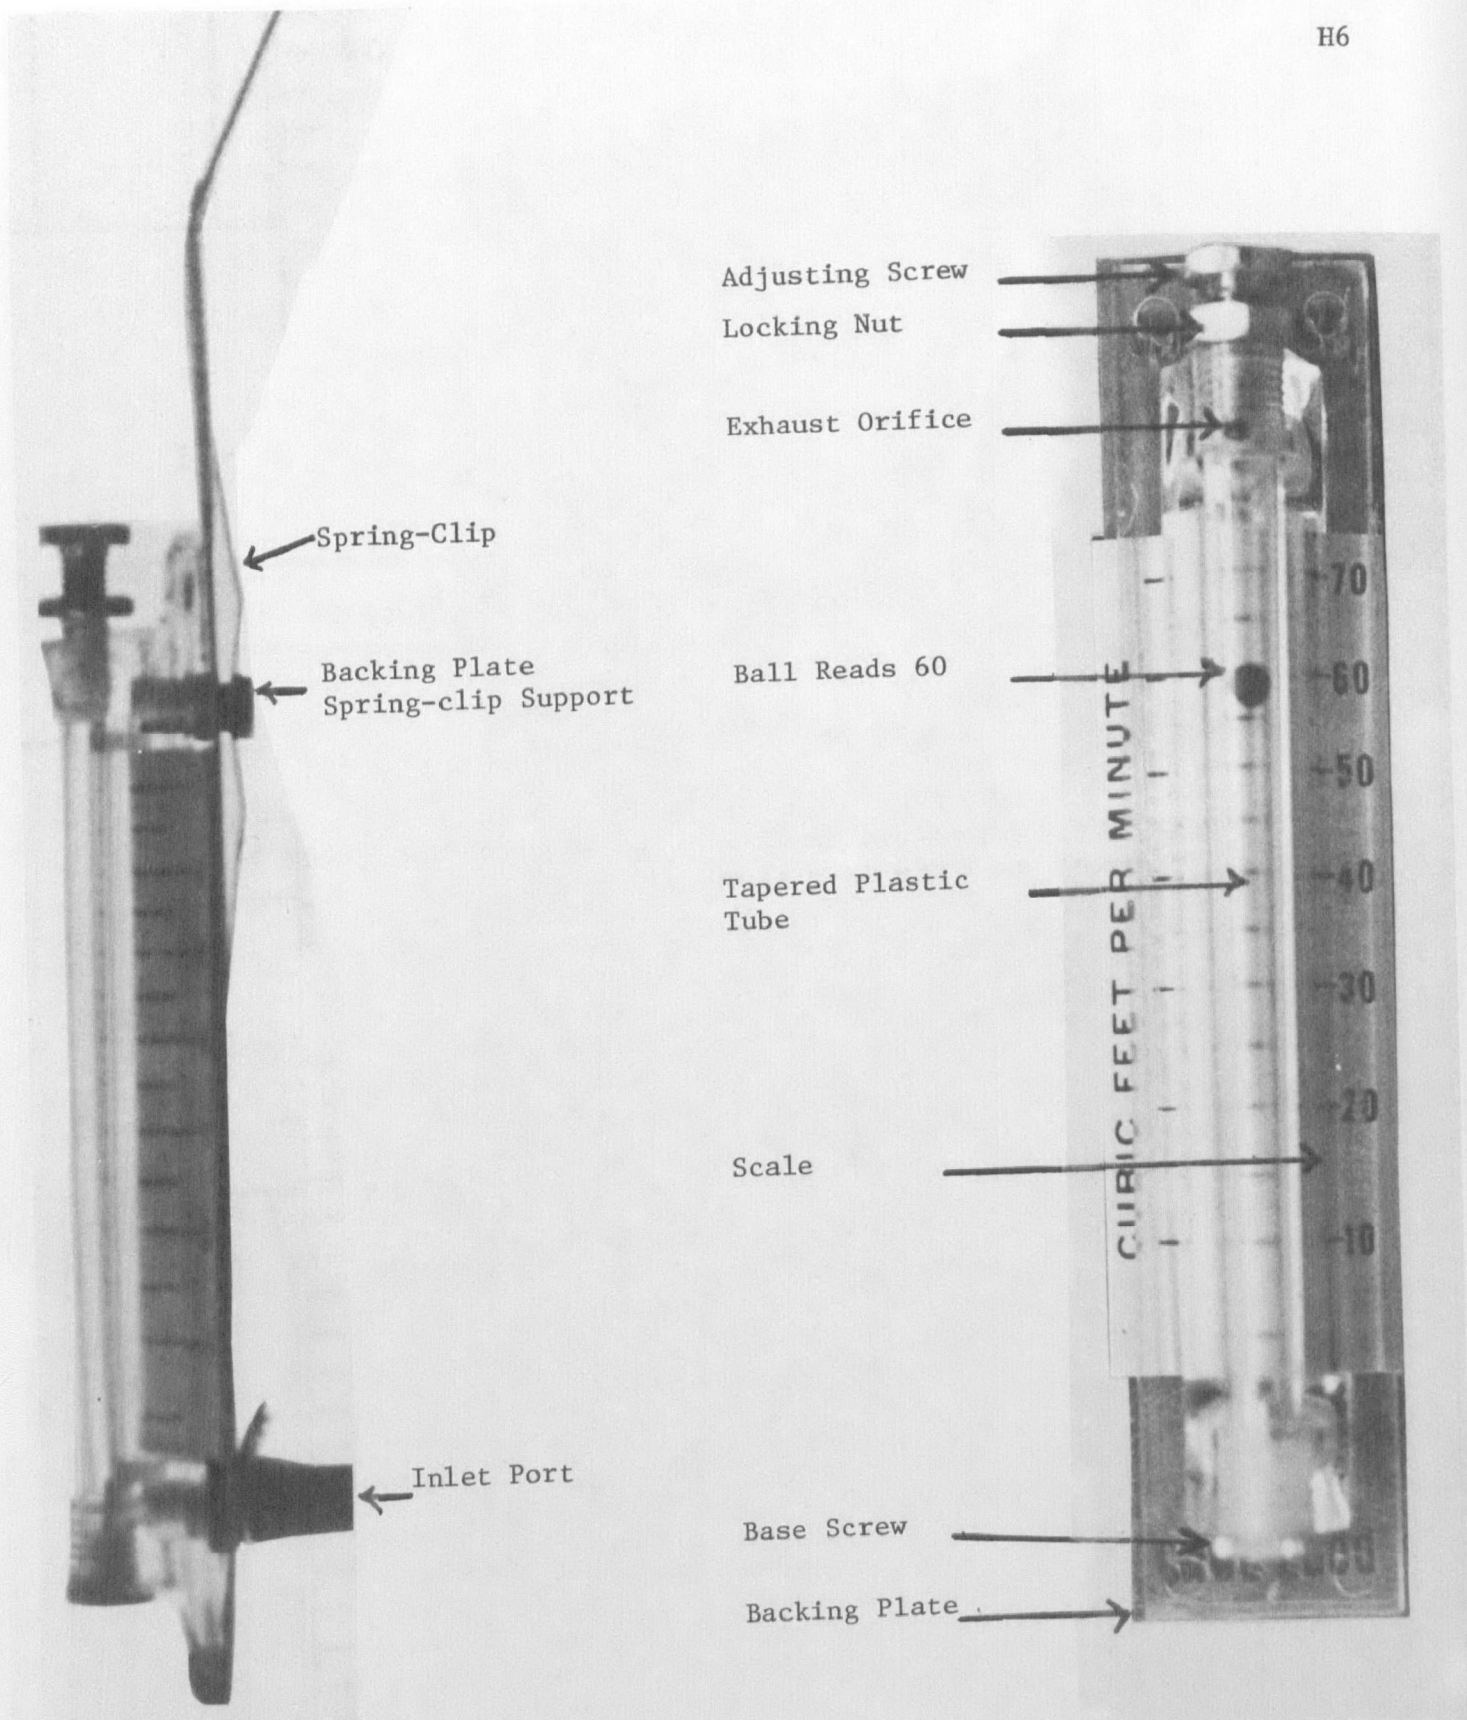

FIGURE 13
**Step #4:** Perform this step on units prior to shipment into the field. Omit this step on units being returned from the field. Adjust the rotameter so the center of the ball reads 60. See Figure 13.